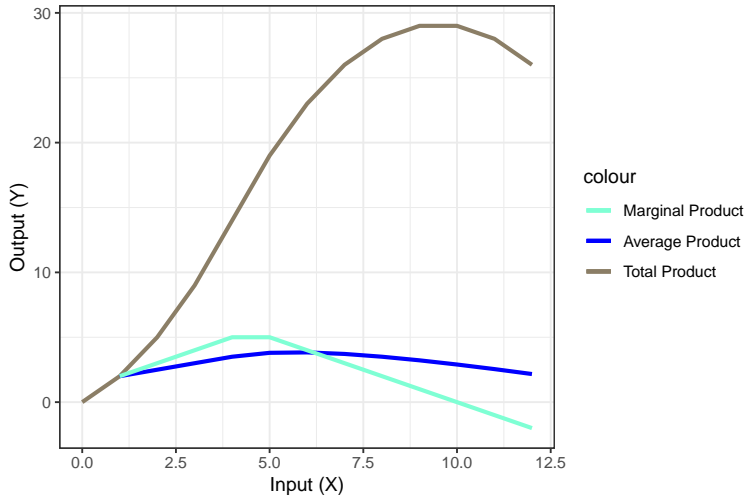

Figure 4: Relationship between TP, AP and MP.
5. When elasticity of production is 1.0, marginal and average products are equal. This condition holds true at only one point on the classical production function as shown in Figure 4.
- The classic production function (Figure 4 and Table 4) can be divided into three “regions”, “zones”, “parts” or “stages”, each important from the standpoint of decision-making on efficient resource use.